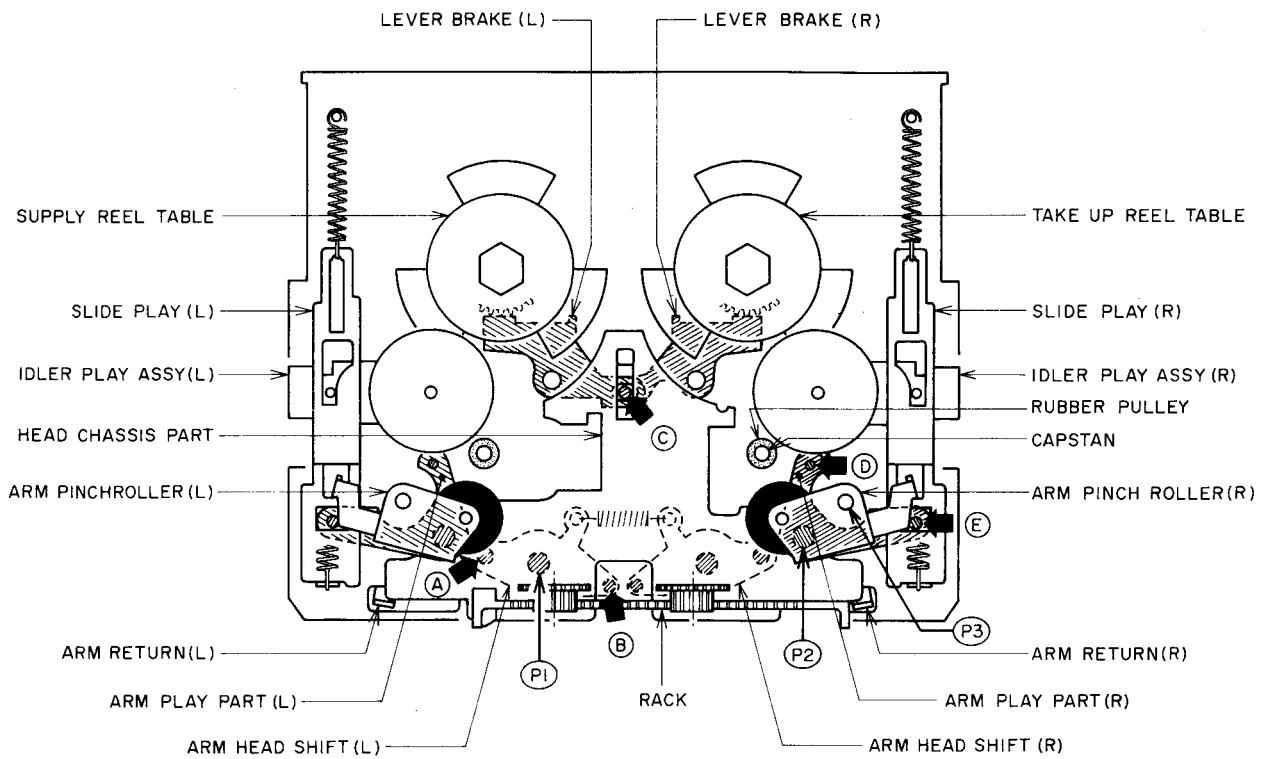

Fig. 6-3 The Mechanism for FWD/REV Mode
1) FWD mode (Refer to Fig. 6-3)
2) REV mode (Refer to Fig. 6-3)